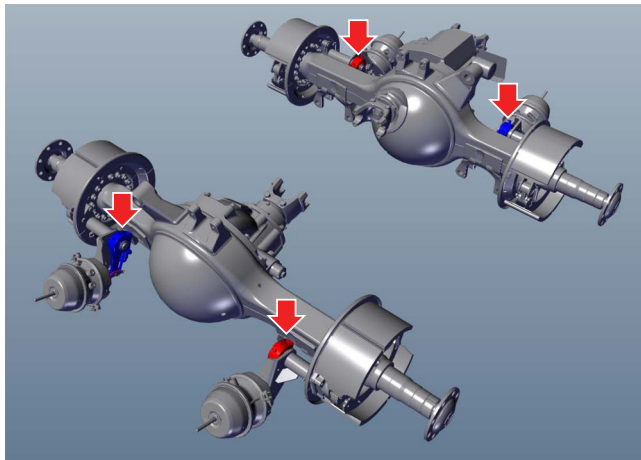

Figure 1
2. Locate the slack adjusters at each wheel end of the vehicle (see *Figure 1*).